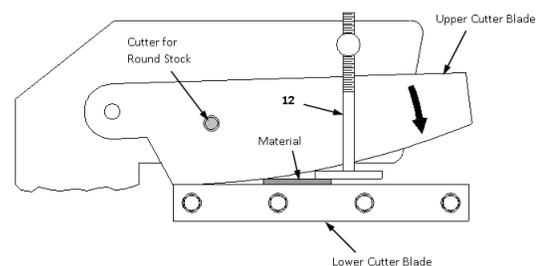

Figure 6-1
1. To cut flat bar, lay it across the lower cutter blade. Gently push the material forward until it contacts the upper cutter blade (see fig. 6-1). By doing so, you will be getting the most cutting force at the point of contact.
1. Make sure the upper cutting blade is in the up position, and then insert the round material into the cutter opening. Fig. 6-1.